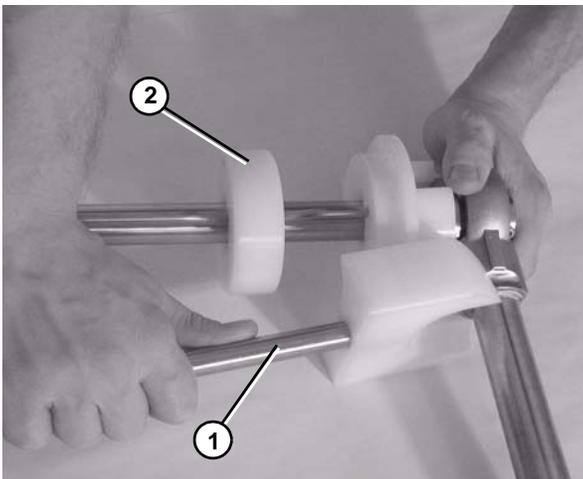

Figure 64
- Remove the guard bar (Figure 64, item 1).
- Remove the pucks (Figure 64, item 2).